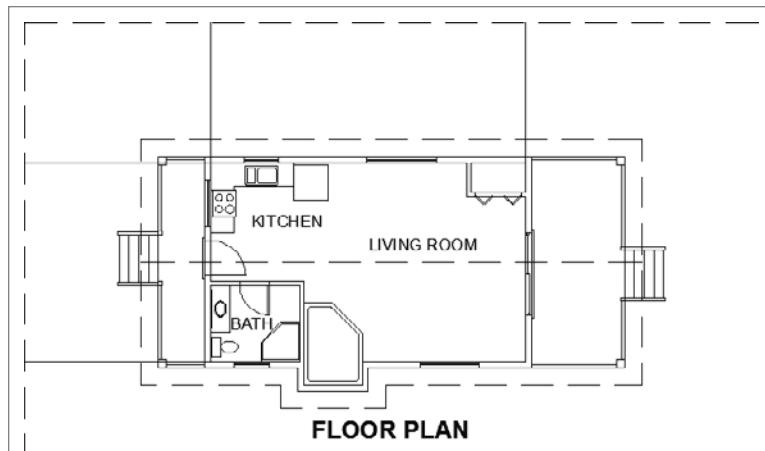

FIGURE 8.28 The first grid lines
4. Draw lines from the upper-left and upper-right inside corners of the walls up to the offset roof line. Then draw lines from the left upper and lower inside corners of the exterior walls to the vertical offset line on the left (see Figure 8.28).